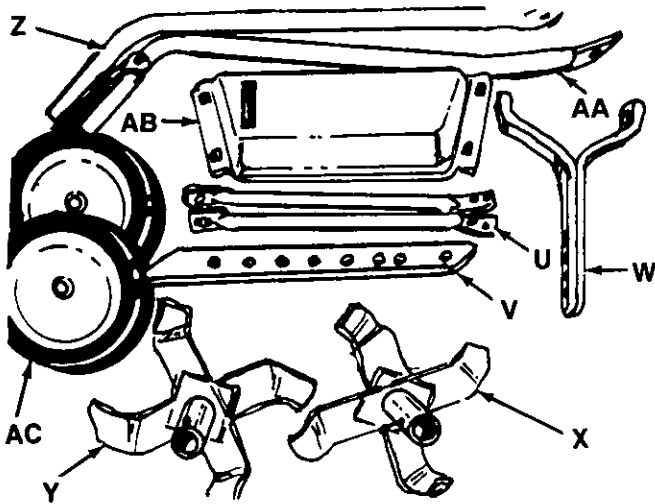
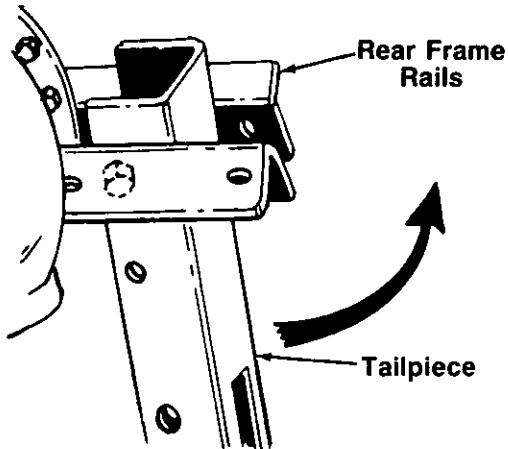

FIGURE 2.
FIGURE 3.
- L (2) Shoulder Bolts (Axles)
- M (2) Belleville Washers
- N (2) Lock Washers 1/2" I.D.
- O (2) Hex Nuts 1/2-20 Thread
- P (2) Grips (Not Shown)
- Q (2) Hex Bolt 1/4-20 x 5/8" Long
- R (2) Lock Washers 1/4" I.D.
- S (2) Hex Nuts 1/4-20 Thread
- T (1) Phillips Head Self-Tapping Screw 1/2" Long
**Loose Parts in Carton: (See Figure 2)**
- U (2) Handle Braces (Right & Left Hand)
- V (1) Depth Stake
- W (1) Wheel Yoke Assembly
- X (1) Right Hand Tine Assembly
- Y (1) Left Hand Tine Assembly
- Z (1) Right Hand Handle
- AA (1) Left Hand Handle
- AB (1) Handle Panel
- AC (2) Wheels
- AD (1) Tine Shield Extension (Not Shown)
3. The tailpiece is partially assembled. Pivot the tailpiece upward until the holes line up with the rear frame rails. See figure 3.